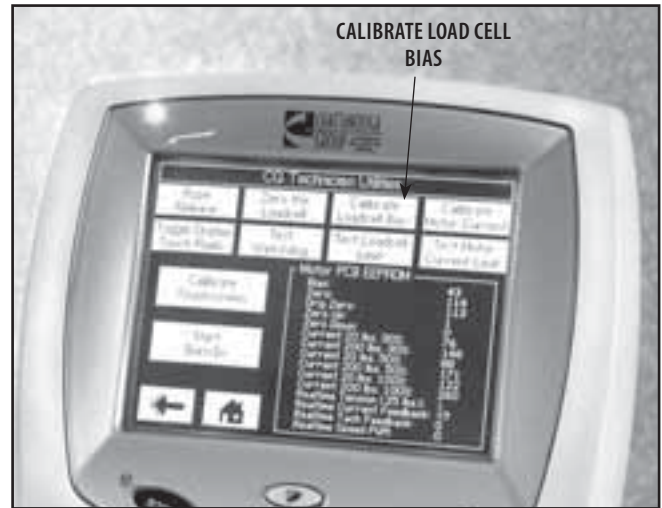

FIGURE 7.6
11. Press Calibrate Load Cell Bias on the Touch Screen. See Figure 7.6.